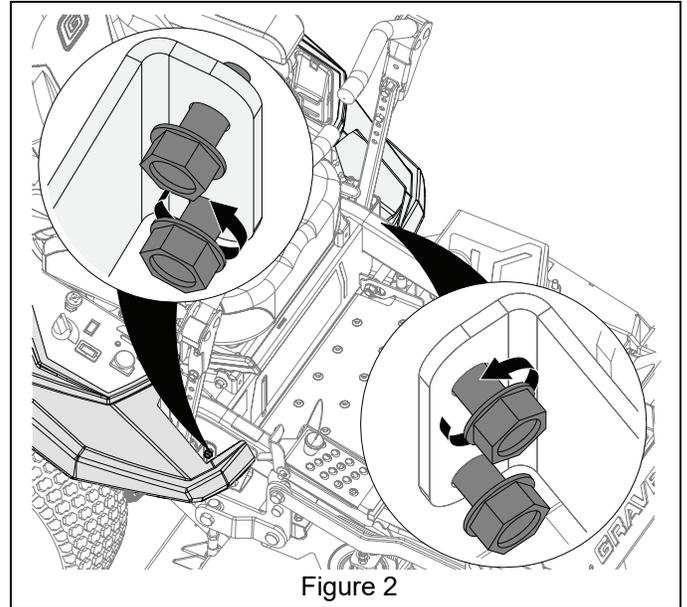

Figure 2
4. Loosen but do not remove front two tapping screws securing left and right steering lever pivot brackets. See Figure 2.